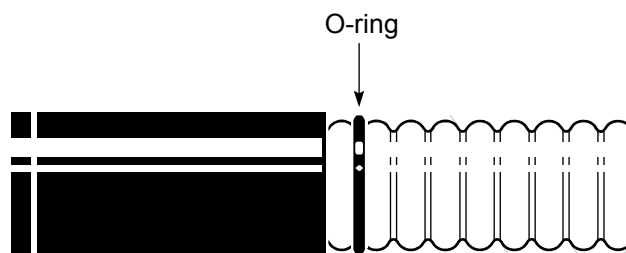

Figure 57 – Installing the small O-ring
2. Install the O-ring on the first corrugation valley as shown in Figure 57.